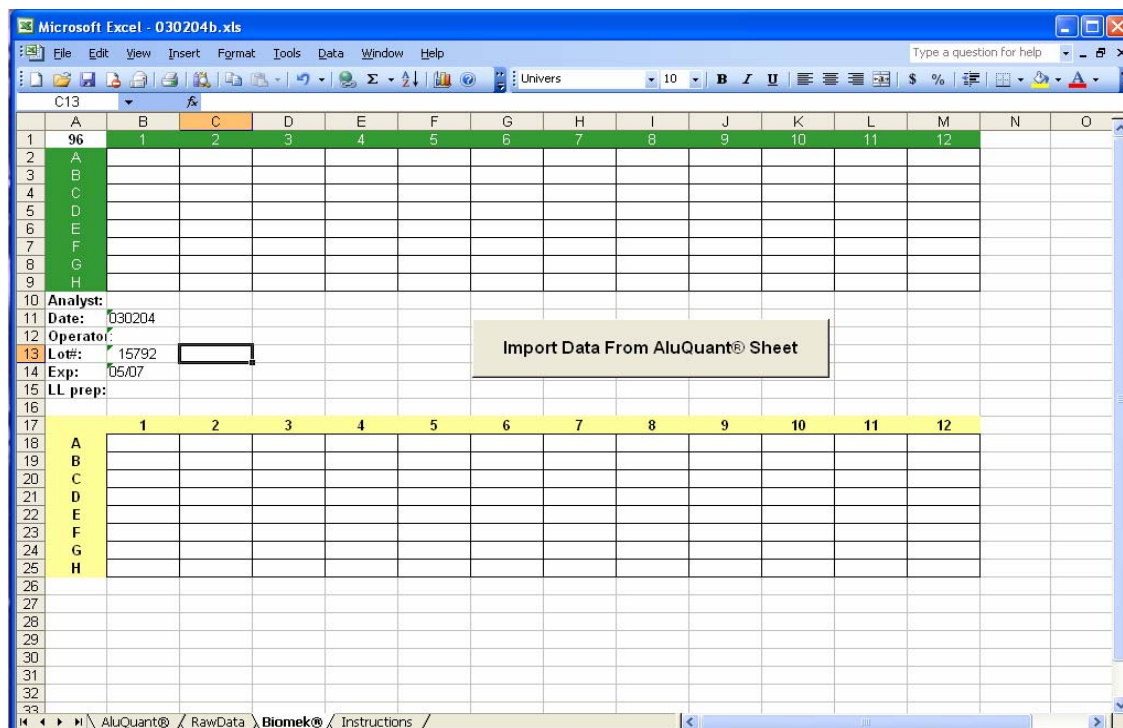

Figure 11. Transferring quantitation data to the BioMek® sheets
4.5.36 Tab to the BioMek® sheet by using the tab at the bottom of the spreadsheet (Figure 11).